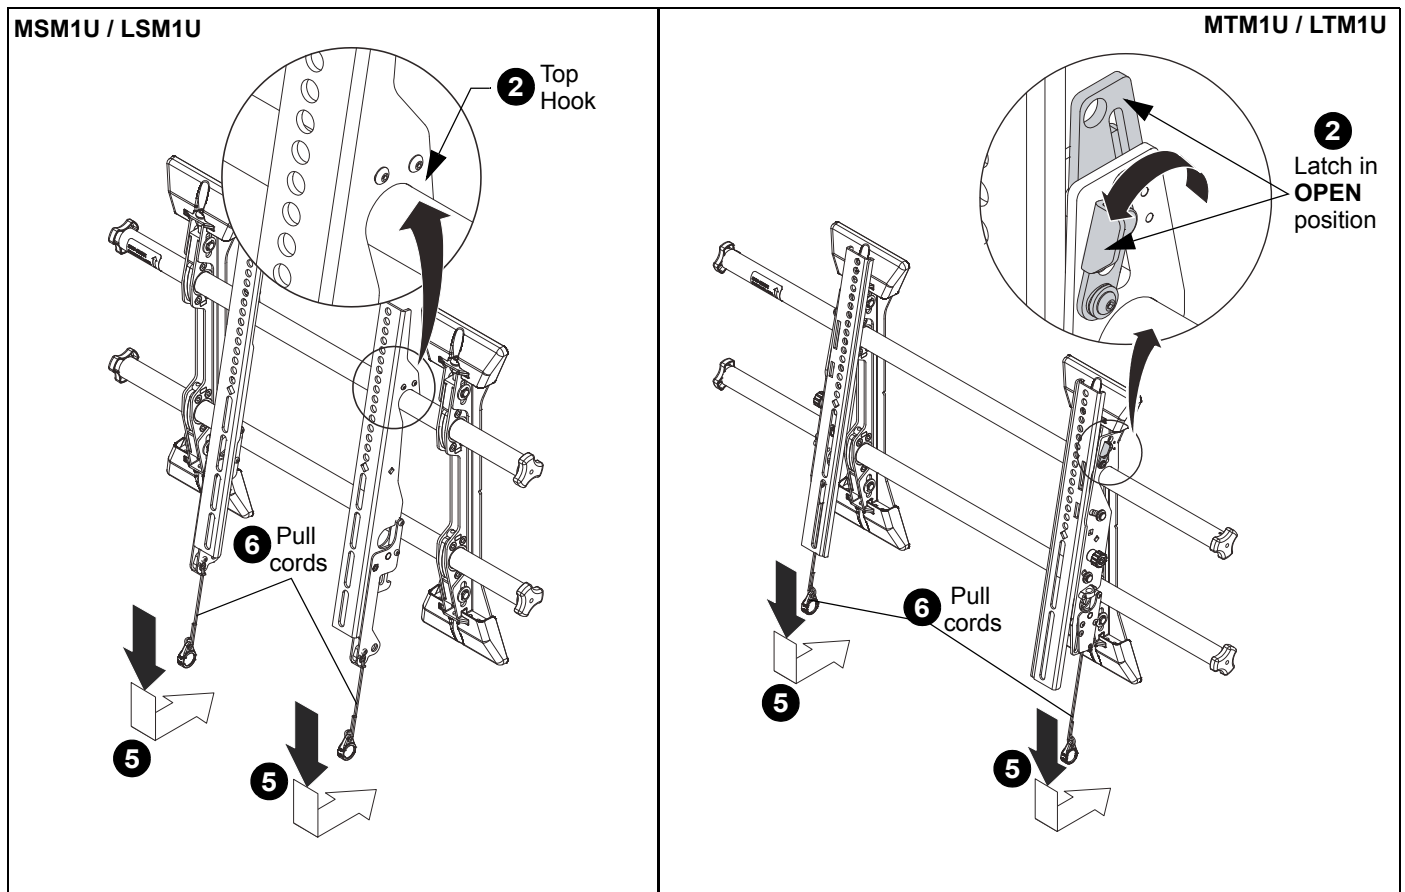

Figure 11
2. Hang screen onto the top rail of the mount (CC). (See Figure 11)
- **MSM1U / LSM1U:** Hang top hook of interface brackets (Y and Z) onto the top rail of the mount (CC). (See Figure 11)
- **MTM1U / LTM1U:** Move latch on top of interface bracket to OPEN position and hang top hook of interface brackets (AA and BB) onto the top rail of the mount (CC). (See Figure 11)
5. Pull downward on the pull cords and swing inward toward wall, latching interface brackets to lower rail and fastening bottom of screen to the mount. (See Figure 11)
6. Attach end of pull cord (a magnet) to mount so it does not extend beyond bottom of screen. (See Figure 11)